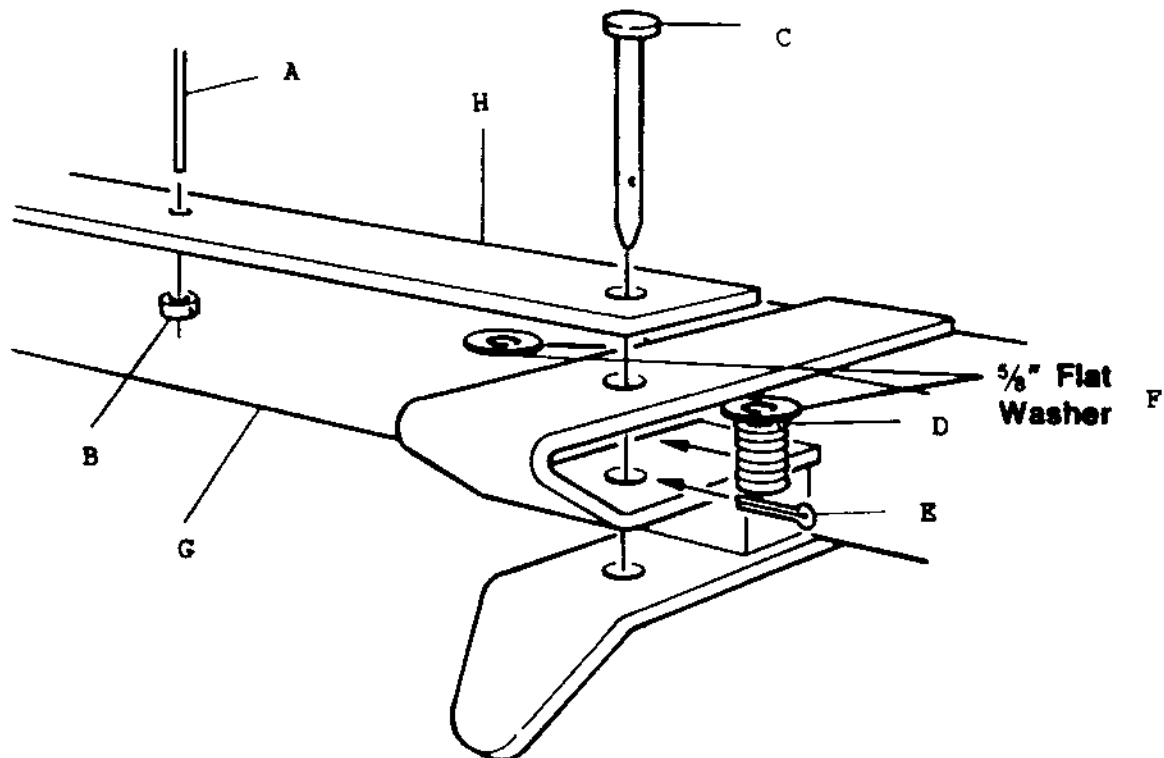

Figure 1
3. Assemble the PUSH BEAM ASSEMBLY (Ref. No. G, Fig. 1) as shown.
PARTS LIST (FIGURE 1)**